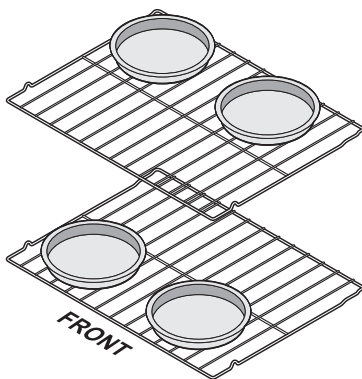

Figure 14: Pan positions two rack baking
- When baking using two oven racks, position cookware as shown in Figure 14. Allow at least 2 inches (5 cm) of space between cookware for proper air circulation.